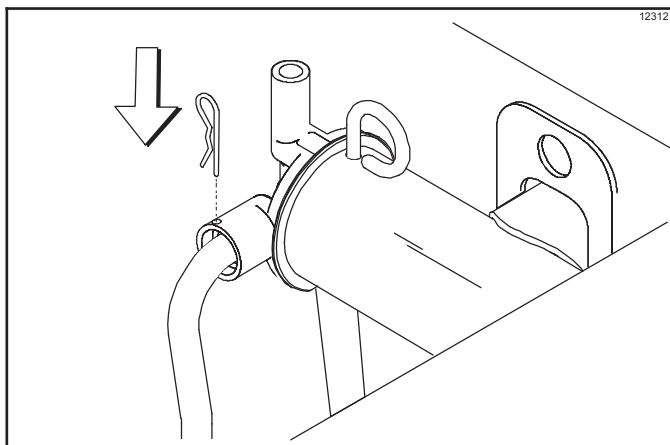

Figure 6-40
2. When mix stops bubbling down into the freezing cylinder, remove the cotter pin from the outlet fitting of the mix pump. Remove the mix feed tube. Insert the outlet end of the mix feed tube into the mix inlet hole in the mix hopper. Place the inlet end of the mix feed tube into the outlet fitting of the mix pump. Secure with the cotter pin. (See Figure 6-40.)